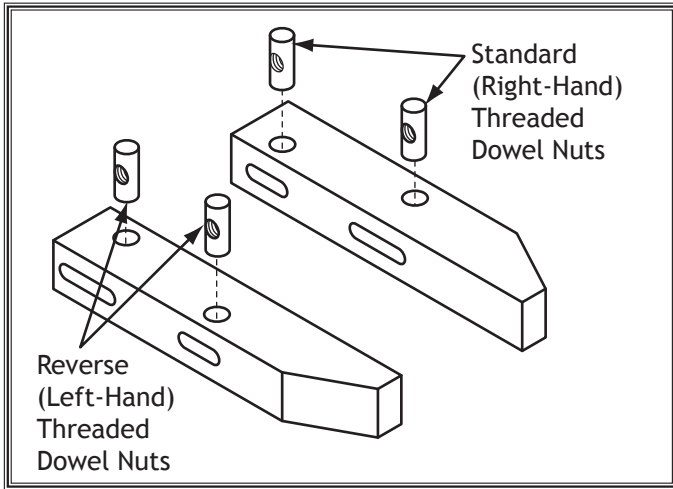

Figure 6. Inserting dowel nuts.
5. Insert the four dowel nuts into the holes drilled in **Step 2**, making sure the left-hand threaded dowel nuts go into the positions shown in **Figure 6**.